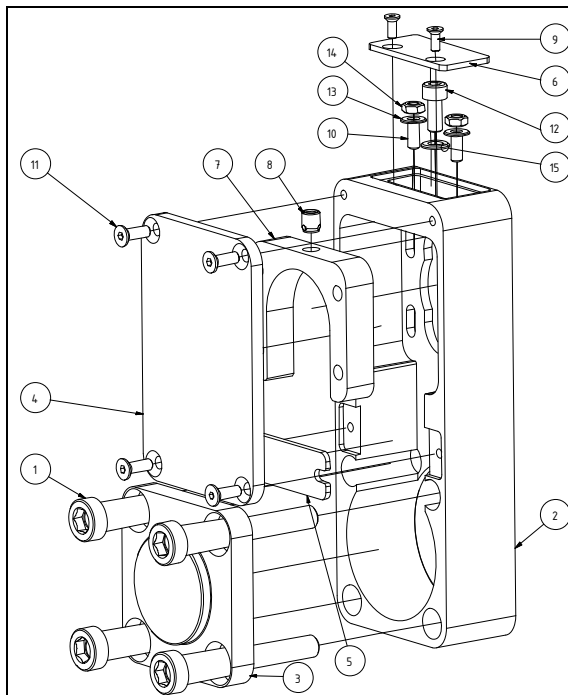

Figure 1: Parallel housing
- ◆ Loosen both lock nuts (Fig. 1 Pos. 14) (do not remove entirely).
- ◆ Unscrew both threaded pins (Fig. 1 Pos. 10) until they are almost level with the inside of the parallel housing.
- ◆ Tighten central toothed belt tensioning screw (Fig. 1 Pos. 12) until the toothed belt is noticeably pretensioned.
- ◆ Screw in both threaded pins (Fig. 1 Pos. 10) until they touch the inner bracket.
- ◆ Retighten lock nuts (Fig. 1 Pos. 14).
- ◆ Refix both lids (Fig. 1 Pos. 4 & 6) with the respective screws (Fig. 1 Pos. 11 & 9).
- ◆ Loosen and remove 4 screws (Fig. 1 Pos. 1).
- ◆ Remove lid (Fig. 1 Pos. 3).
- ◆ Remove bar (Fig. 1 Pos. 5).
- ◆ Insert bar (Fig. 1 Pos. 5).
- ◆ Fit lid (Fig. 1 Pos. 3).
- ◆ Apply screw adhesive "Wiko 02K43 medium" to 4 screws (Fig. 1 Pos. 1) and tighten slightly.
- ◆ Align housing (Fig. 1 Pos. 2) with the electro cylinder.
- ◆ Tighten 4 screws (Fig. 1 Pos. 1) with the given tightening torque.
- ◆ Mount lid (Fig. 1 Pos. 6) with screws (Fig. 1 Pos. 9).
- ◆ Mount lid (Fig. 1 Pos. 4) with screws (Fig. 1 Pos. 11).